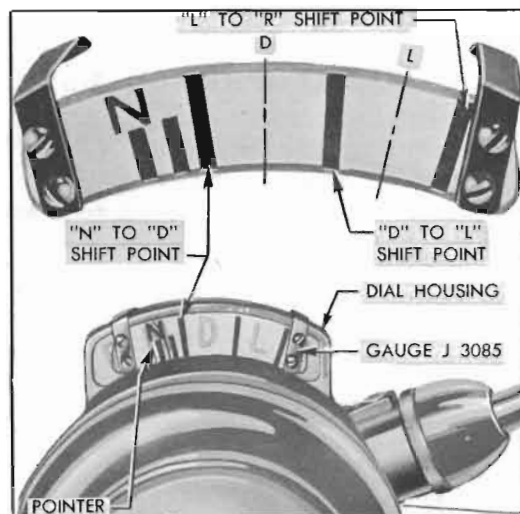

Figure 4-69—Linkage Adjustment Gauge J 3085 Set for Checking Shift Point
8. When spring travel is correct pull shift rod forward until stop is felt then adjust shift rod clevis until clevis pin will just enter hole in shift idler lever, *with control detent firmly engaged in Parking (P) position*. Lengthen shift rod by unscrewing clevis 3 complete turns, then temporarily connect rod to idler lever with clevis pin.
9. Place shift control lever in Neutral (N) position making sure that detent is firmly engaged, then install Shift Control Linkage Adjustment Gauge J 3085 on dial housing with the line under "N" centered on the dial pointer. See figure 4-69.
10. *With transmission warmed up* and engine idling at approximately 600 RPM, slowly move control lever from Neutral (N) to Drive (D) position. The clutch should engage, as indicated
by an immediate decrease in engine speed when the tip of dial pointer is behind the long gauge mark located midway between "N" and "D" on speed ratio dial. See figure 4-69. The width of this mark provides for the allowable variations in shift point.
11. Slowly move control lever from Drive (D) position to Neutral (N) position. Clutch should disengage, as indicated by an immediate increase in engine speed, when tip of speed ratio pointer is behind the midway mark on gauge, as in Step 10.
12. If points of clutch engagement and disengagement are not as specified adjust shift rod clevis (Steps 6, 7, 8) to obtain required setting, being careful not to change clevis so much that parking lock fails to hold or parking lock pawl contacts ratchet wheel in Neutral (N).
13. Check operation in Low (L) and Reverse (R). Low and Reverse should be obtained when detents are engaged and the shift points should occur when tip of dial pointer is behind the corresponding shift point marks on Gauge J 3085 shown in figure 4-69. If these conditions are not correct, the transmission shift lever may be bent.